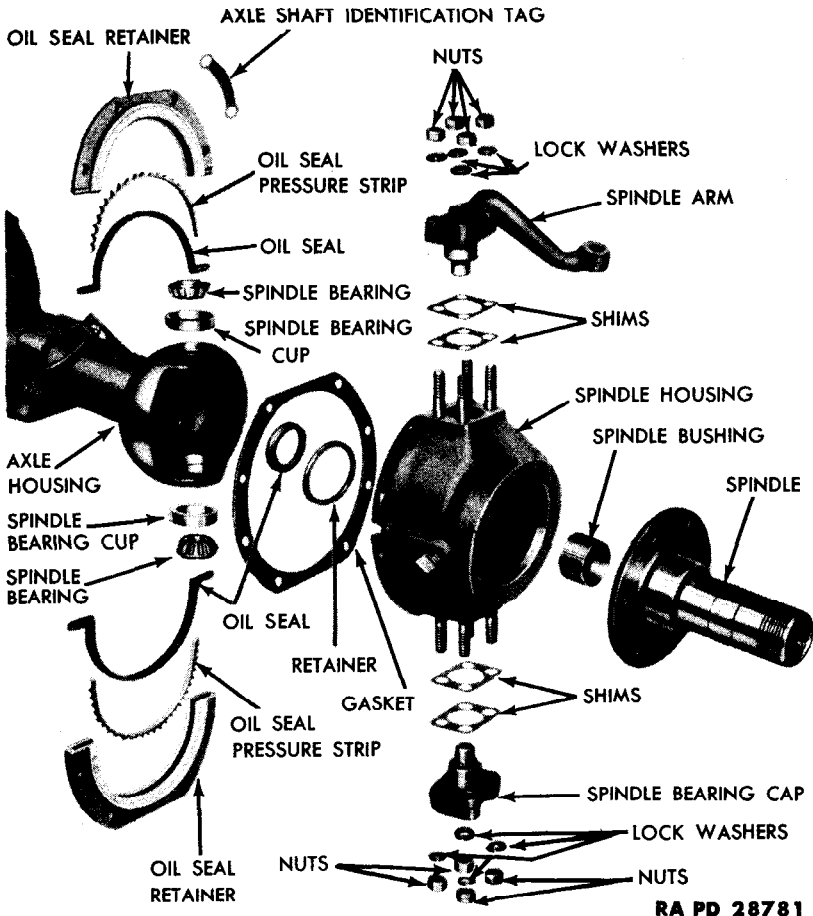

Figure 76 — Spindle Housing — Exploded View
(b) Spindle Bearing Pin Replacement. Place the spindle housing bearing cap or the spindle arm (fig. 76) in a press and with a suitable driver, press out the bearing pin. To install a new pin, use a suitable driver and press the pin in until it is flush with the outer
(7) SPINDLE HOUSING AND SPINDLE (fig. 76).
n. **Install Spindle Housing (fig. 76).** Dip the two spindle housing bearings in grease. Place the bearings in the bearing cups on the axle housing. Place the spindle housing on the axle housing with the grease plug to the rear of the vehicle. Install shims totaling 0.048 inch thick on the spindle bearing cap and the spindle arm. Shims are available in thicknesses of 0.003 inch, 0.005 inch, 0.010 inch and 0.030 inch. Install one of each size on the top and bottom of the spindle housing. Place the lower bearing cap on the spindle housing and install the four nuts that secure the cap to the spindle housing. Place the spindle arm on the spindle housing and install the four nuts that secure the spindle arm to the spindle housing.
p. **Install Spindle Housing Oil Seal (fig. 76).** Place a new gasket on the spindle housing. Place the upper and lower halves of the oil seal on the spindle housing. Install the four cap screws that secure the lower half of the oil seal to the spindle housing. Place the axle